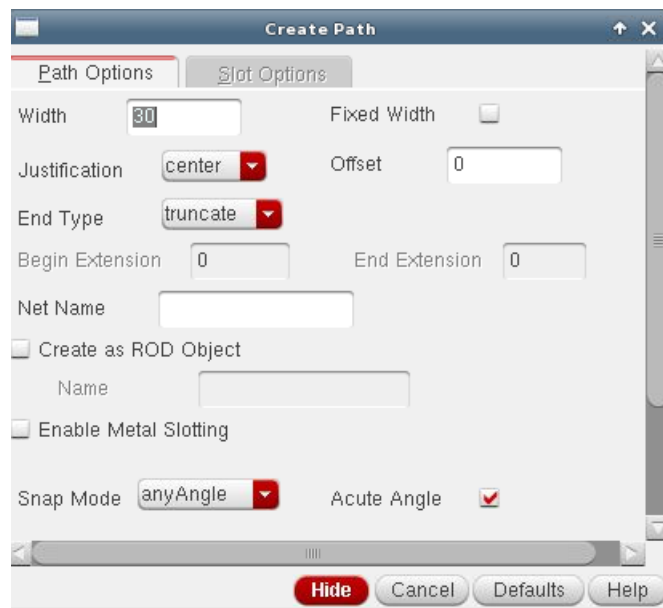

Figure 4: Changing the path width.
- Press F3 to edit the path options and change the path width to 30 as shown in Figure 4.